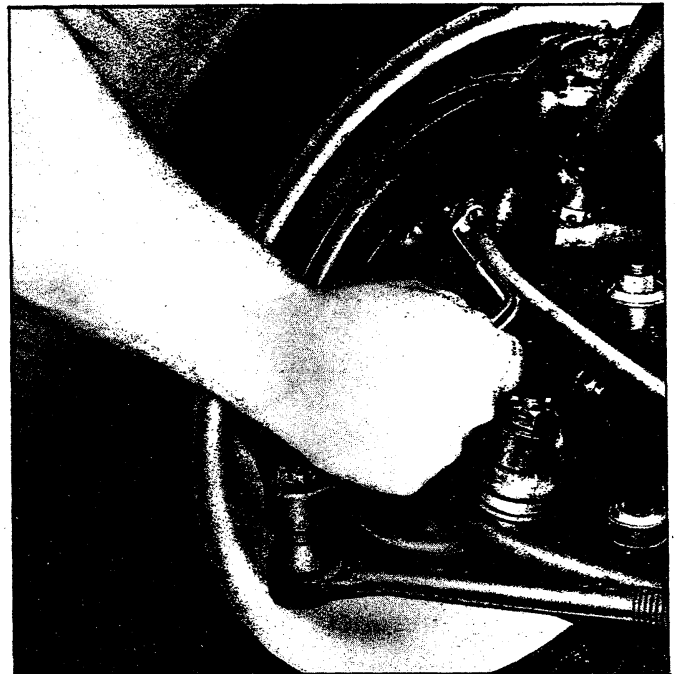

Fig. 7—Bleeding Brakes Using Brake Bleeder Wrench Tool J-21472
4. Install brake bleeder wrench, Tool J-21472 on bleeder valve at wheel cylinder and install one end of bleeder hose on bleeder valve (fig. 7).
3. Install brake bleeder wrench, Tool J-21472 on bleeder valve at wheel cylinder and install one end of bleeder hose on bleeder valve (fig. 7).